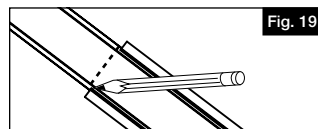

Fig. 19
- Once length is determined, mark brace in center with pencil line (Fig. 19).